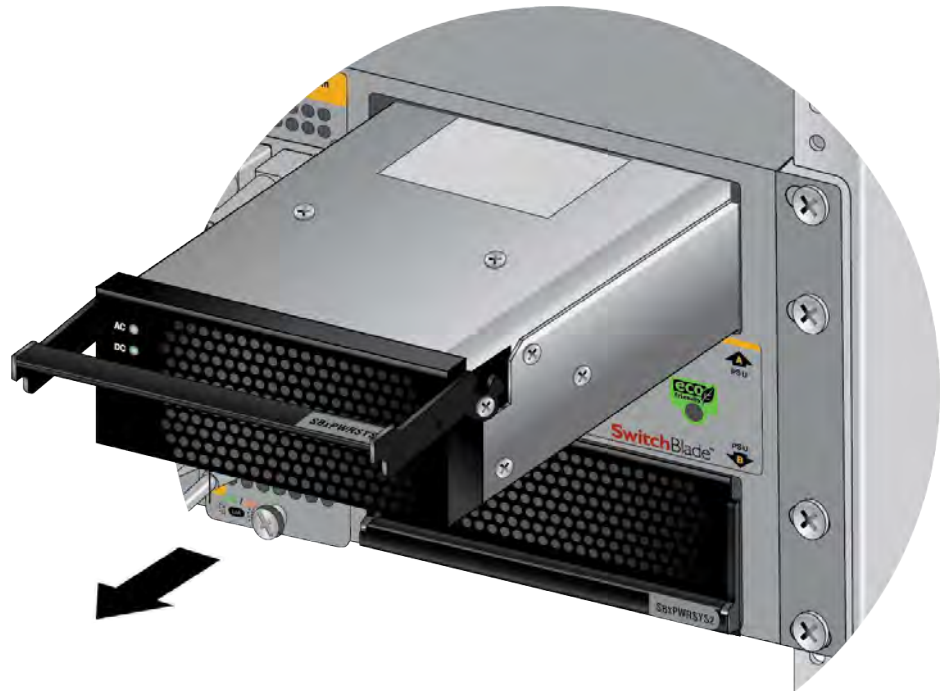

Figure 92. Removing the SBxPWRSYS2 (AC) Power Supply from the chassis
- Carefully pull on the locking handle to slide the power supply from the chassis. Refer to Figure 92.